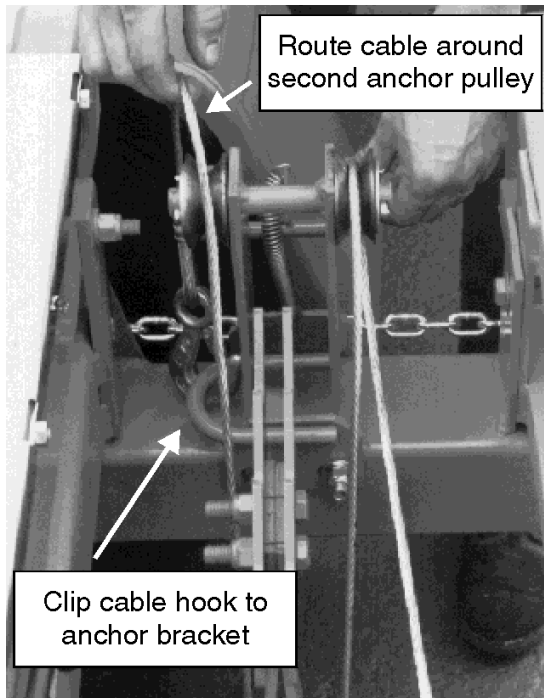

FIG. 1-5
3. Route the end of the cable around the remaining anchor pulley and attach cable hook to 'U' anchor bracket as shown in FIG. 1-5.